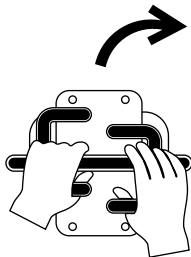

Figure 9
- To turn right, move the left traction control forward (Figure 9).